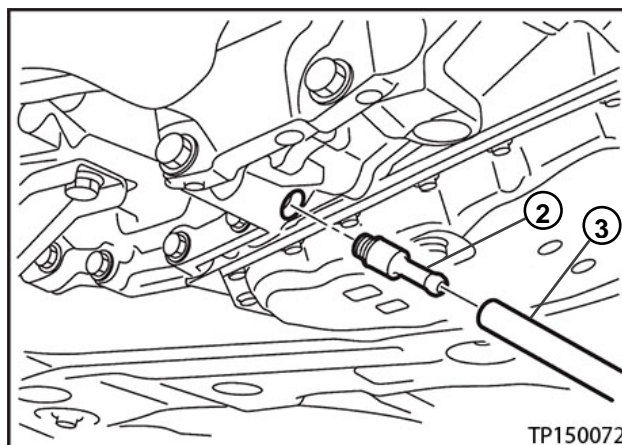

Figure 2
7. Install the charging pipe into the overflow plug hole (see Figure 2, # 2).
8. Install the ATF changer hose with fill pump to the charging pipe (see Figure 2, # 3).